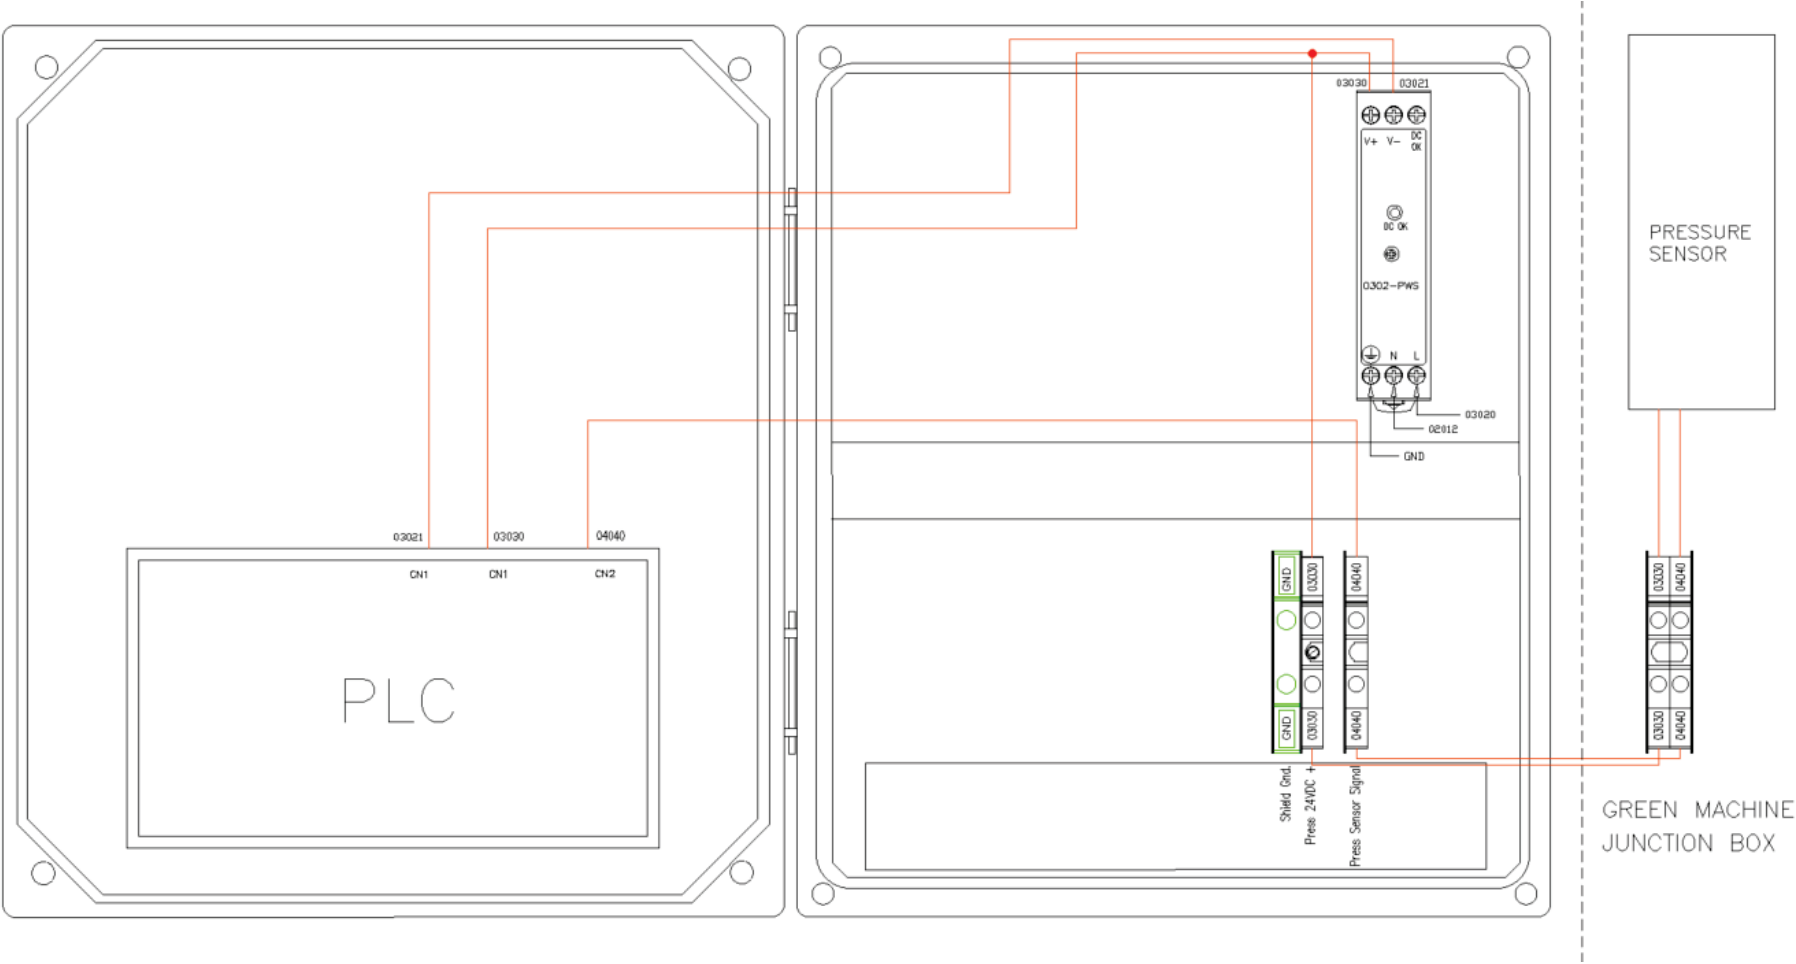

Figure 8-5: Pressure Sensor Wiring Diagram (24VDC Power and 4-20 mA Signal)
See Figure 8-5.
1.	<ul style="list-style-type: none">Check that a Pressure Sensor reading is showing on the Main Screen.<ul style="list-style-type: none">• If a Pressure Sensor reading is not showing:<ol style="list-style-type: none">a) There is no 24 VDC power to the Pressure Sensor circuit.b) There is no signal from the Pressure Sensor at the PLC.c) Check the Pressure Sensor power circuit as shown in Figure 8-5.d) Repair the Pressure Sensor power circuit as needed.e) If the power and signal circuits are OK, replace the Pressure Sensor.• If the Pressure Sensor Alarm is still active, call a VST Service Technician.